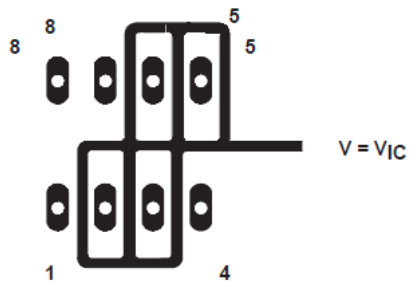

Figure 7-4. Isolation Metal Around Device Inputs (JG and P Packages)
1. Isolate the device from other potential leakage sources. Use a grounded shield around and between the device inputs (see Figure 7-4). Leakages that can otherwise flow to the inputs are shunted away